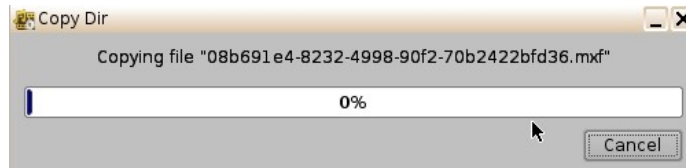

Figure 63: Copy CPL Window
- The following window will appear showing the CPL being copied to the USB (Figure 63).